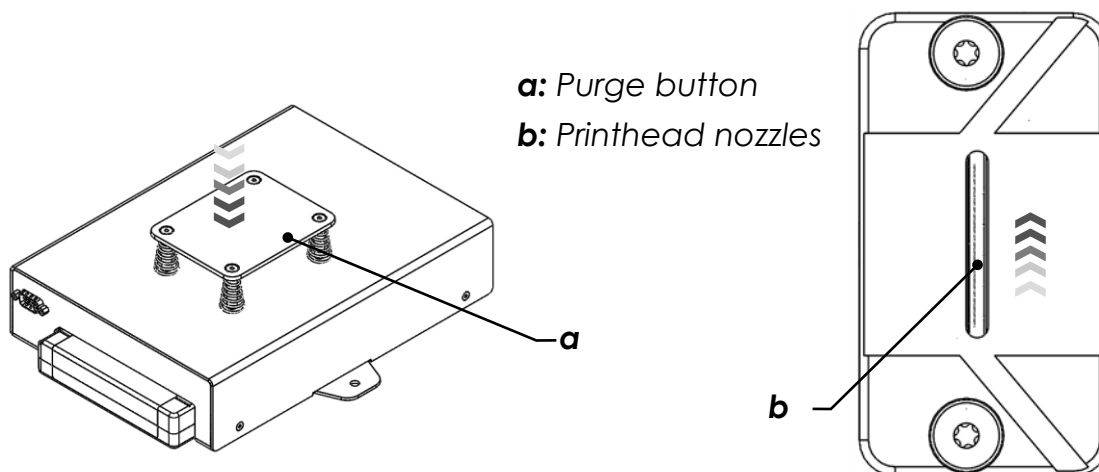

Figure 34
- Push purge button located on the bottom of the ink cartridge through the round opening located on the underside of the ink supply unit until ink flows from the print head nozzles (see Figure 34).